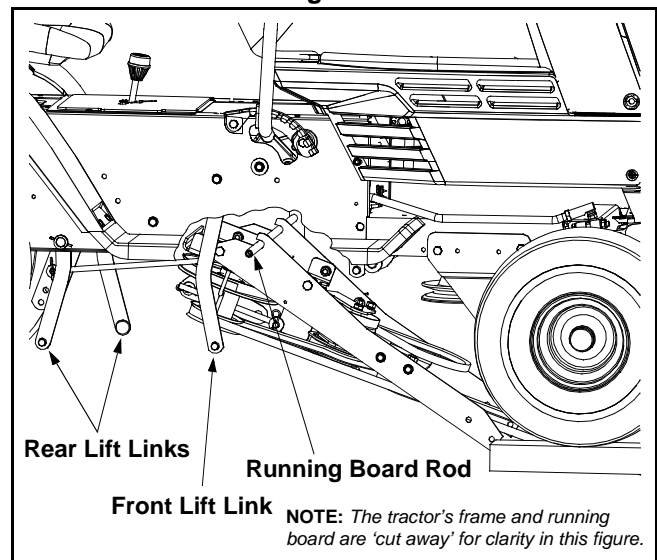

Figure 8
3. Position the slot found on both the left, rear and the right, rear sides of the undercarriage onto the tractor's running board rod. See Figure 8.
NOTE: The rear lift links (See Figure 8) are unaffected by this assembly and not used in any regard by the snow thrower attachment. Both can be ignored.